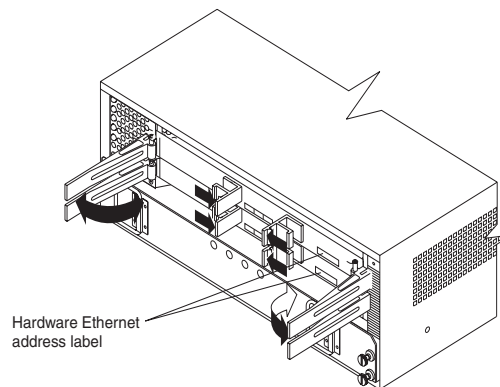
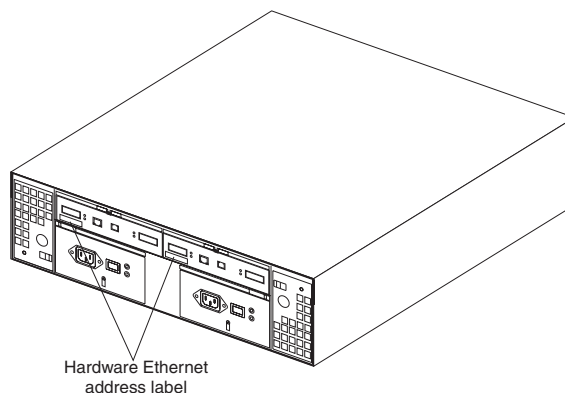

Figure 8. Location of the hardware Ethernet address (machine types 3526 and 3552)
Figure 9. Location of the hardware Ethernet address (machine type 3542)
3. The controller hardware Ethernet address labels are located on the front of each controller, as shown in Figure 8 on page 19 and Figure 9.